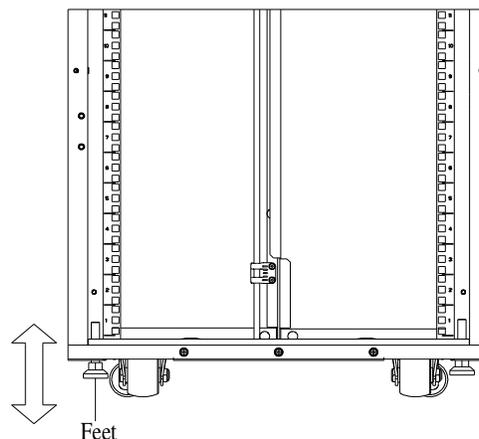

Figure 3-22 The Way to Adjust the Feet
1. Tighten the feet nut with an active wrench (user-owned) as shown in Figure 3-22.
2. Rotate the feet nut at the bottom of the feet to raise or lower the feet as shown in Figure 3-22.